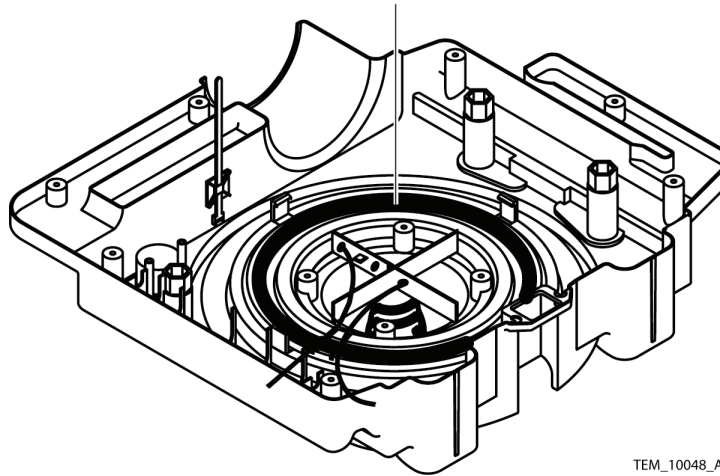

Figure 77. Rubber Gasket
33. Place the rubber gasket into the rear cover assembly with the wire indentations over the heater wires. See Figure 77.